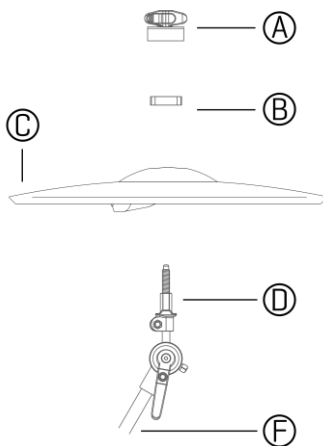

Figure 2
- 1 Screw cymbal seat (D) on an 8 mm cymbal arm (F).
- 2 Place the cymbal (C) on the cymbal seat (D), followed by the spin lock (B). *Figure 2*